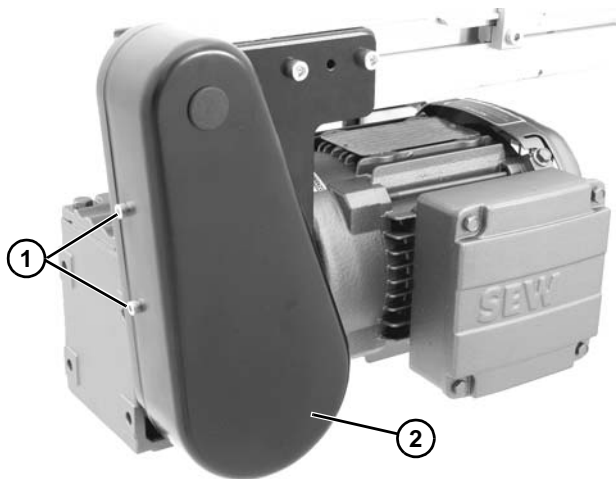

Figure 20
1. Remove four (4) screws (Figure 20, item 1) and remove cover (Figure 20, item 2).
6. Install cover (Figure 20, item 2) with four (4) screws (Figure 20, item 1). Tighten to 35 in-lb (4 N-m).